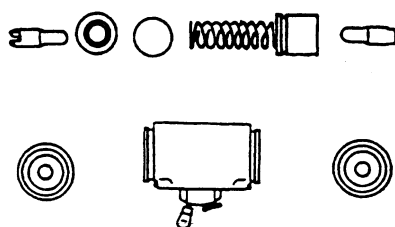

Fig. 2-19
(1) Check the inner surface of operating cylinder and the periphery surface of the piston for rusting. Then, measure the clearance between the piston and pump body. (Fig.2-19)